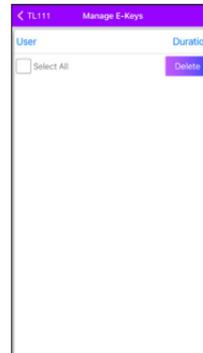

Fig. 9
Step 3. Now the E-Keys User(s) can’t open the lock via “Turbolock Plus” app any more (Fig. 9).